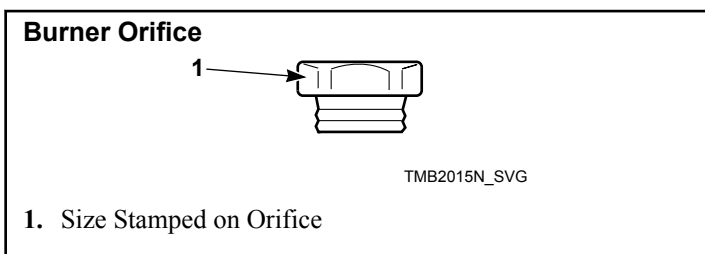

Figure 19
3. Install the new, correct burner orifice(s). Refer to *Figure 19* and *Table 9*. Torque each to 9 – 10 Nm. Use Loctite 565 or equivalent pipe thread sealer.
4. Reinstall orifice holder assembly to gas valve, making certain burner orifice(s) are in line with burner tube opening. Refer to *Figure 19*.